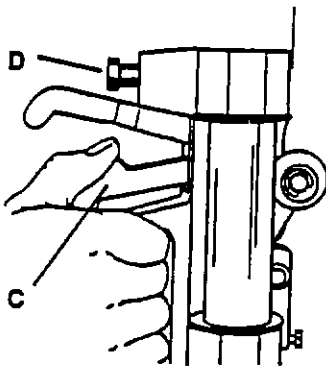

Figure 17
3. Rest your left hand lightly on the glass to hold it against the triangular face plate. Grasp the CUTTING HEAD handle with your right hand and depress the SHORT THUMB LEVER (C) as shown in Figure 17.
5. Never score the same place more than once. A light, continuous score is best. If the pressure is too great, the score will be flaky. Pressure is adjusted with the PRESSURE KNOB, (D). The correct position of this KNOB will expose about 1/2" of threads.